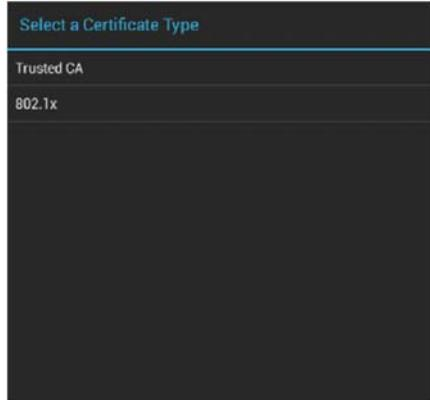

FIG. 106 Select a Certificate Type window
2. Select the type of certificate that will be installed: Trusted CA or 802.x1 (FIG. 106):